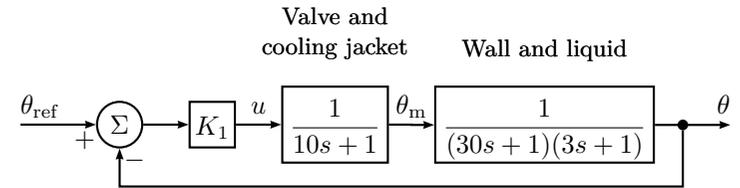

Figure 7.1c
b) Suppose that we make a simple feedback loop instead, see Figure 7.1c. How is the Bode plot affected? Again, choose K_1 so that the gain margin $A_m = 2$, and determine the gain crossover frequency ω_c and the steady-state error. Compare with a) with respect to steady-state errors and response times. Conclusions?